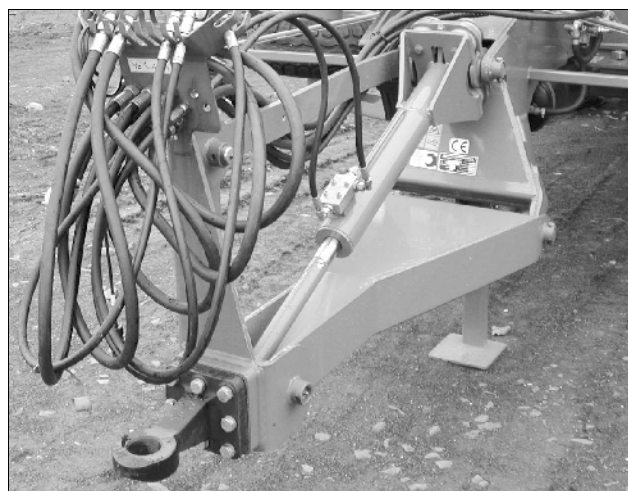

Fig. 11
- pendulum connection via hitch draw bar (Fig. 11)